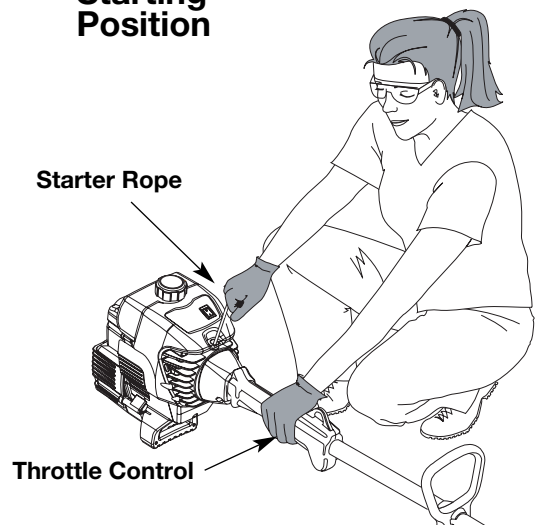

Fig. 8
**WARNING:** Avoid accidental starting. Make sure you are in the starting position when pulling the starter rope (Fig. 8). To avoid serious injury, the operator and unit must be in a stable position while starting.
5. Crouch in the starting position (Fig. 8) and squeeze the throttle control. Pull the starter rope briskly 3 times.